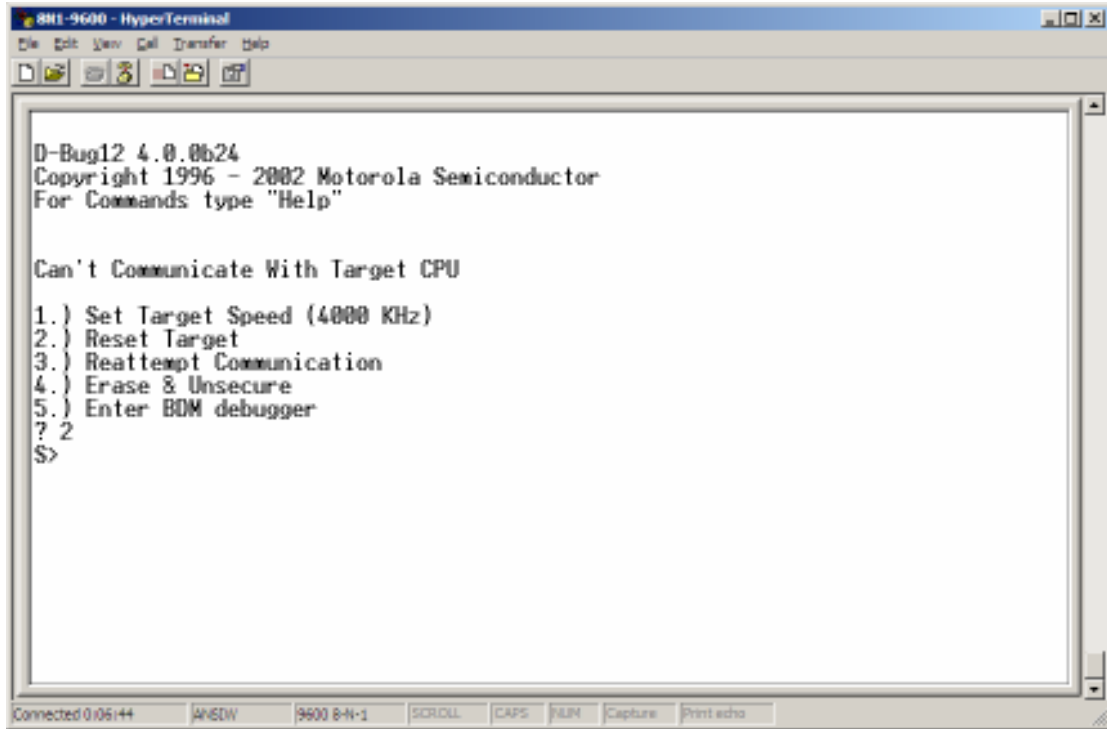

Figure 2 POD mode, host system
Start HyperTerminal and reset the host board. Make sure the host board is set to *POD mode*. You should be presented with a small menu (Figure 2). Select menu item (2) to reset the target system. You should be presented with a prompt '*S>*' indicating that the target system is stopped.